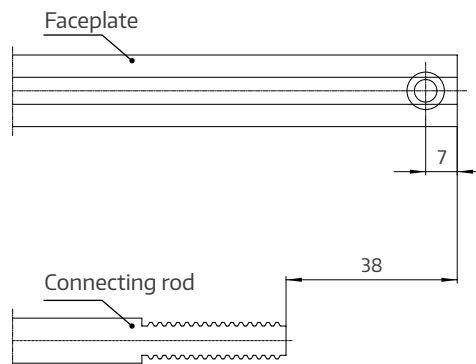

Fig. 1
5. Install the **Tilt-Only stay-arm housing** ⑤. Mark the Tilt-Only stay-arm's notch (Fig. 1, ①) on the frame with a pencil, line up the Tilt-Only stay-arm housing's mark with the notch and mount (Fig. 1, ②).
2. Open the safety device on the Tilt-Only stay-arm housing and hinge the scissor-stay arm (Fig. 1).
3. Bring the window handle into the tilt-mode (Fig. 2) and close the safety device again (Fig. 1)
1. When unhinging in the tilted position, open the safety device (Fig. 1).